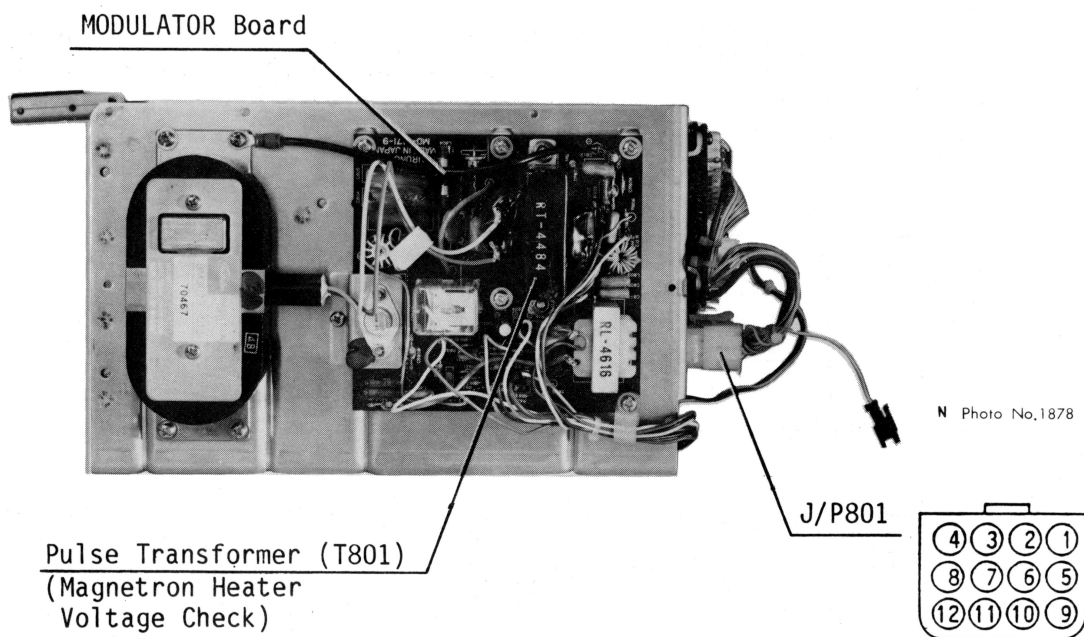

Fig.4-13 Transceiver Module Side View
See Fig.4-13.
- 3) When the magnetron current is not within the ratings, check the magnetron heater voltage for the followings rates. See Fig.4-13.